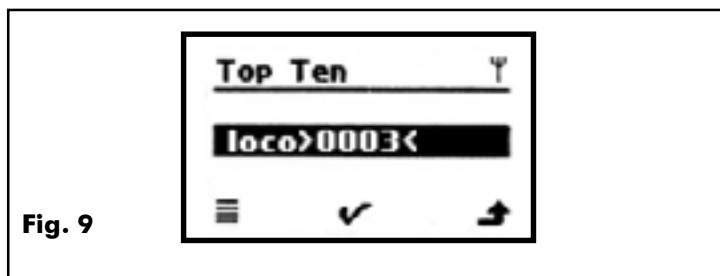

Fig. 9
- The menu for selecting an engine appears on the display (Fig. 9).